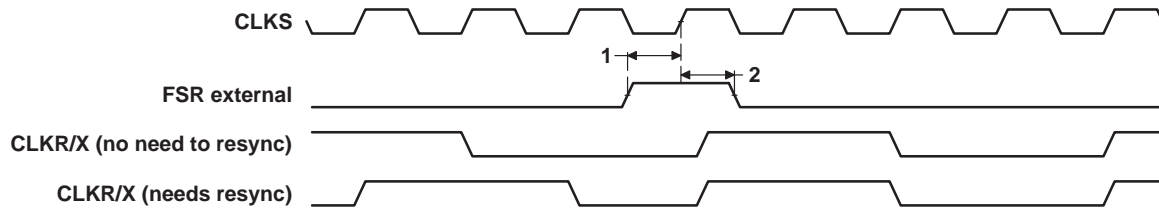

**Figure 33. McBSP Timings**
### timing requirements for McBSP†‡ (see Figure 33)
**switching characteristics over recommended operating conditions for McBSP†‡ (see Figure 33)**